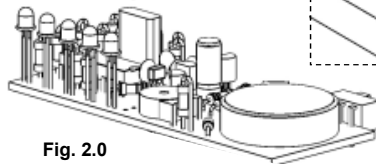

Fig. 2.0
- ☐ Solder the signal wires or the RCA cable to the 'OUT' terminal on the PCB (see figure 2.0).
- ☐ Solder the shielding of the RCA cable to the 'GND' terminal on the PCB (see figure 2.0).